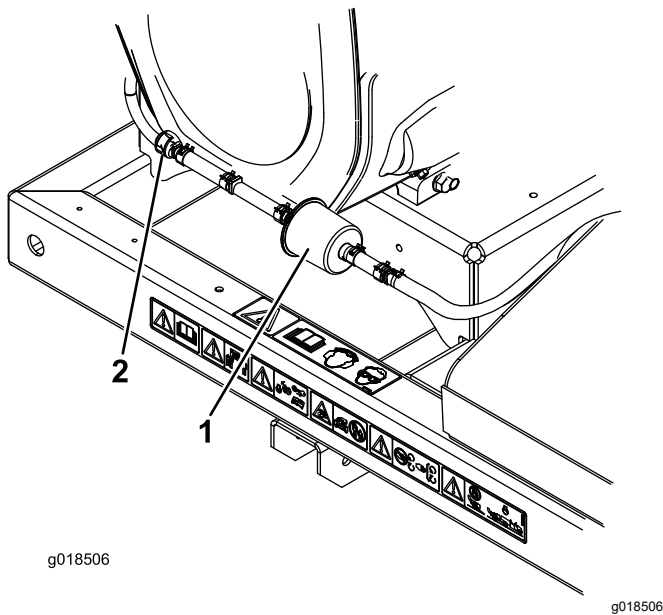

Figure 15
2. Move the spring-type hose clamps on both sides of the carbon canister purge-line filter away from the filter (Figure 15).
3. Remove and discard the carbon filter (Figure 15).
4. Install a new filter into the hose with the arrow on the filter pointing towards the check valve and secure it with the hose clamps (Figure 15).